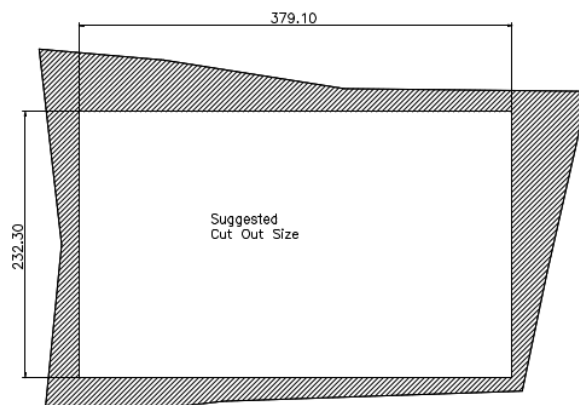
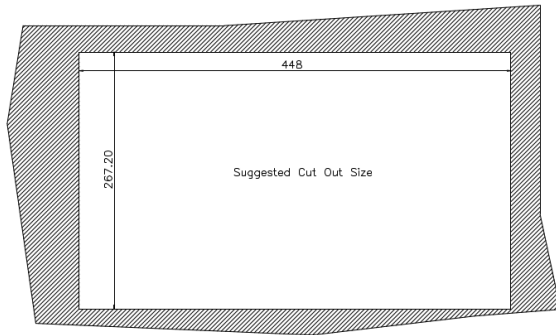
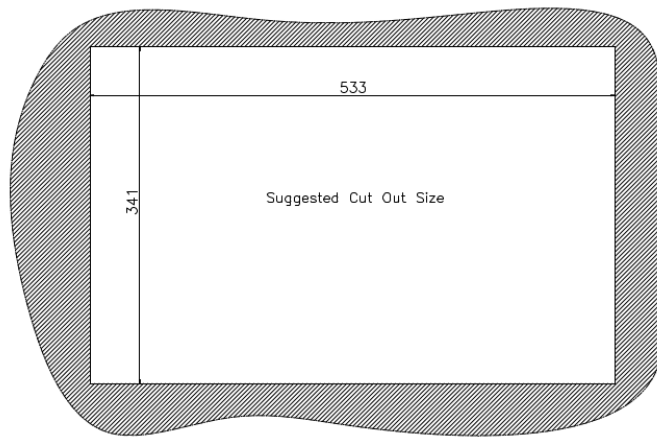

Figure 3-13: PPC2-CW156A-ADLP Panel Cutout Dimensions
Figure 3-14: PPC2-CW185A-ADLP Panel Cutout Dimensions
Figure 3-15: PPC2-CW215A-ADLP Panel Cutout Dimensions
Step 6: Cut out a section of the panel that corresponds to the rear panel dimensions of the PPC2-CWxxxA-ADLP Series. The recommended cutout sizes are shown below (**Figure 3-13** , **Figure 3-14** ,**Figure 3-15**).